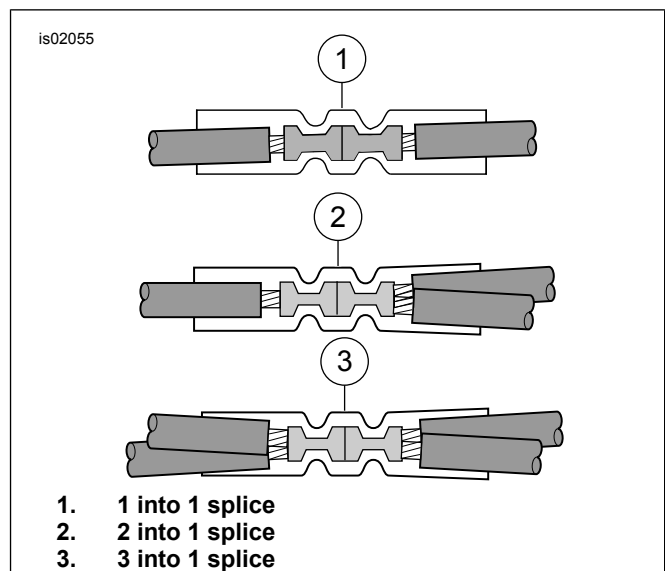
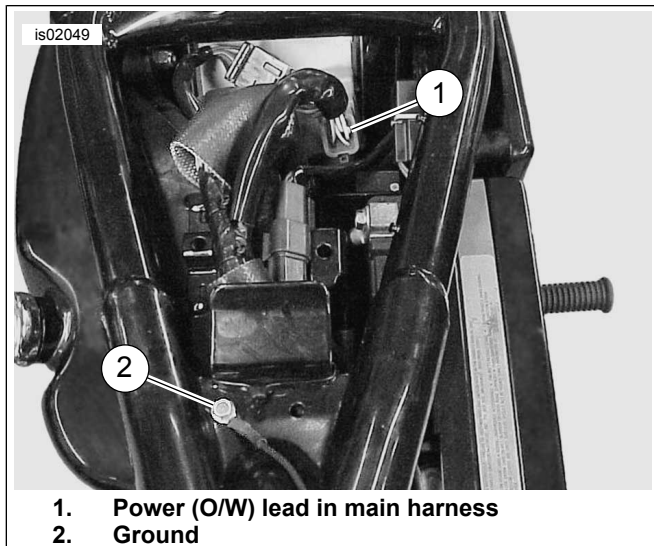
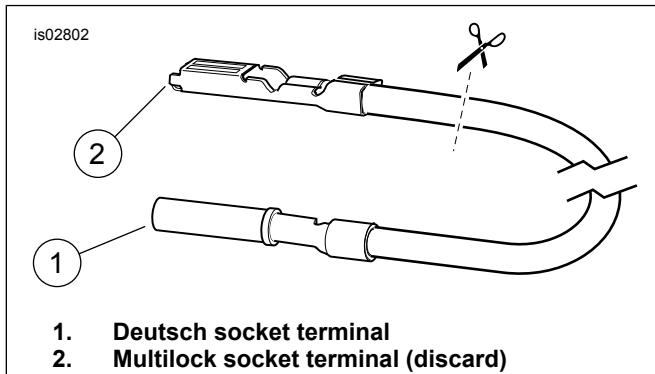

Figure 1. Splice Configurations
Figure 2. Wire Harness and Ground Location (2003 or earlier XL)
Figure 3. Cut Multilock Terminal From Adapter Lead
2. Use a sealed splice connector (6) from the kit to splice the black lead from the mini-tach harness to one of the black (BK) wire leads coming from the instrument cluster connector [20]. See Figure 1, the 2 into 1 splice configuration.
- Obtain a sealed splice connector (6) from the kit. See Figure 1, the 2 into 1 splice configuration. Splice the mini-tach wire harness power lead and two segments of the orange/white (O/W) lead from cavity #2 according to the instructions in the service manual appendix.
- Obtain a sealed splice connector (6) from the kit. Carefully slice open an area of the main harness wrap, and cut an orange/white (O/W) main harness power lead at an accessible point. See Figure 1, the 2 into 1 splice configuration. Splice the mini-tach wire harness power lead to the main harness power lead according to the instructions in the service manual appendix.
- Using a sealed splice connector (6) from the kit, splice the two orange/white wires. See Figure 1, the 1 into 1 splice configuration.
- Install the 2 Amp fuse (8) from the kit into the P&A IGN fuse cavity to complete the circuit. Install the three fuses removed in Step 2 into the proper cavities.
2. See Figure 2. Obtain a sealed splice connector (6) from the kit. Carefully slice open an area of the main harness wrap, and cut an orange/white (O/W) main harness power lead at an accessible point. See Figure 1, the 2 into 1 splice configuration. Splice the mini-tach wire harness power lead to the main harness power lead according to the instructions in the service manual appendix.
1. Cut off and discard the terminal on the pink (PK) **mini-tach wire harness** signal lead.
- Obtain the signal adapter wire lead (12) and a sealed splice connector (6) from the kit. See Figure 3. Cut the Multilock socket terminal from the signal adapter wire lead, close to that terminal. Splice the signal adapter wire lead to the mini-tach wire harness signal lead according to the instructions in the service manual appendix.
- See Figure 2 and Figure 3. Cut the un-needed socket terminal from the signal adapter wire lead, close to that terminal. Splice the signal adapter wire lead to the mini-tach wire harness signal lead according to the instructions in the service manual appendix.